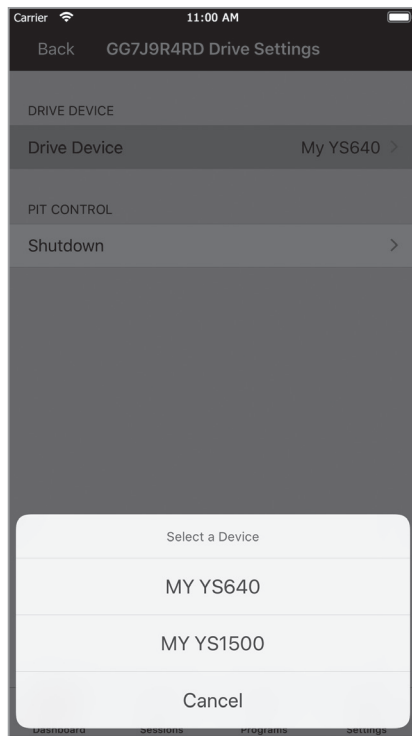
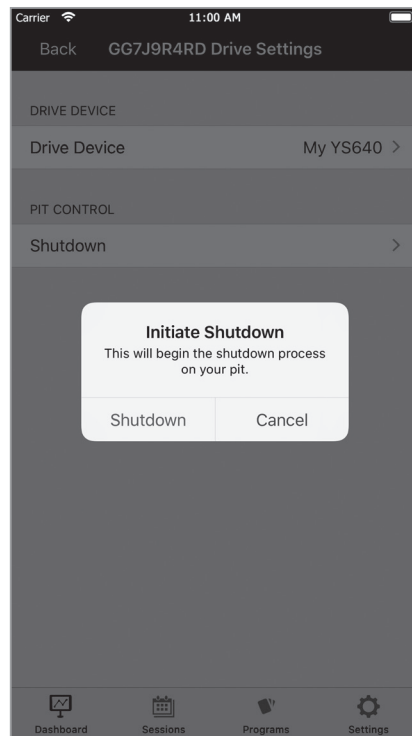

FIG 18
FIG 19
- Tapping the small wrench icon in the upper right of the grey bar will take you to a section that allows you to choose between multiple cookers (if you have more than one paired to your mobile device) (FIG 18) and also allows you to shut down your cooker (FIG 19).